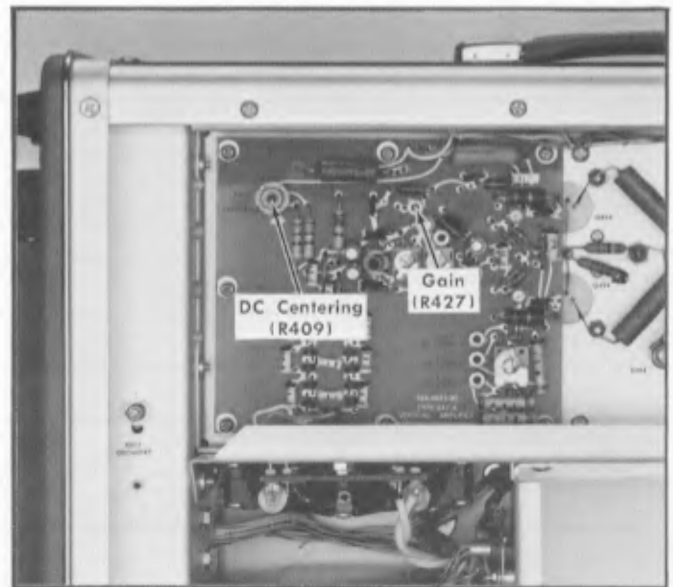

Fig. 6-17. Location of DC centering control, R409 and Gain control, R427.
- ADJUST—DC Centering adjustment, R409 (see Fig. 6-17), so the trace is positioned to the top horizontal line.
- ADJUST—Gain adjustment, R427 (see Fig. 6-17), to correct for one-half the error observed in part h. Then set the vertical-horiz cal switch to $+3$ cm and repeat parts e through i of this step until exactly six division change is observed when switching between the $+3$ cm and -3 cm positions of the vertical-horiz cal switch.